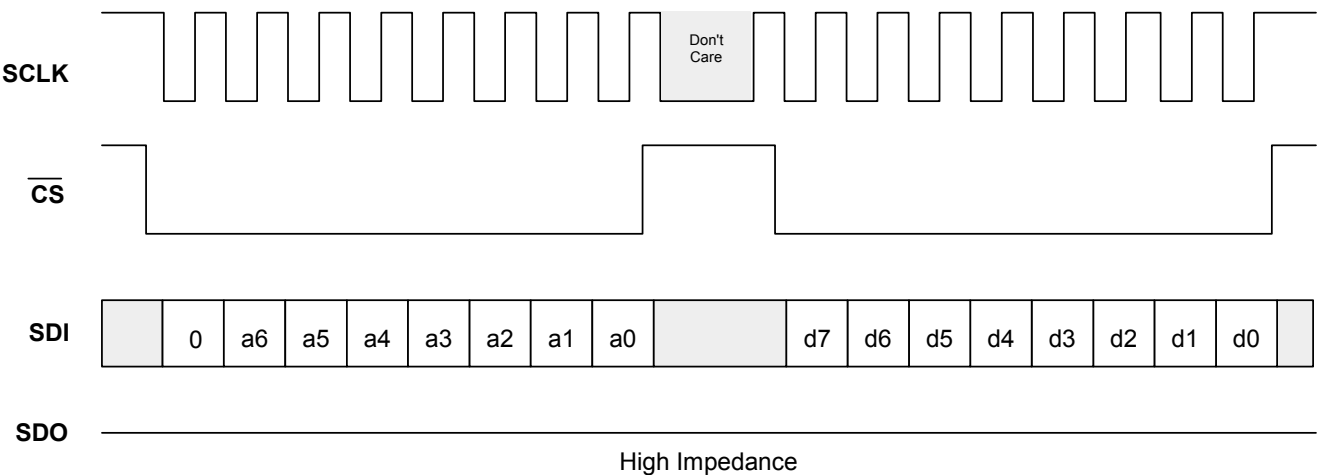

Figure 26. Serial Write 8-Bit Mode
The control interface to the ProSLIC is a 4-wire interface modeled after commonly-available micro-controller and serial peripheral devices. The interface consists of a clock (SCLK), chip select (CS), serial data input (SDI), and serial data output (SDO). Data is transferred a byte at a time with each register access consisting of a pair of byte transfers. Figures 26 and 27 illustrate read and write operation in the SPI bus.
The first byte of the pair is the command/address byte. The MSB of this byte indicates a register read when 1 and a register write when 0. The remaining seven bits of the command/address byte indicate the address of the register to be accessed. The second byte of the pair is the data byte. Because the falling edge of \overline{CS} provides resynchronization of the SPI state machine in the event of a framing error, it is recommended (but not required) that \overline{CS} be taken high between byte transfers as shown in Figures 26 and 27.